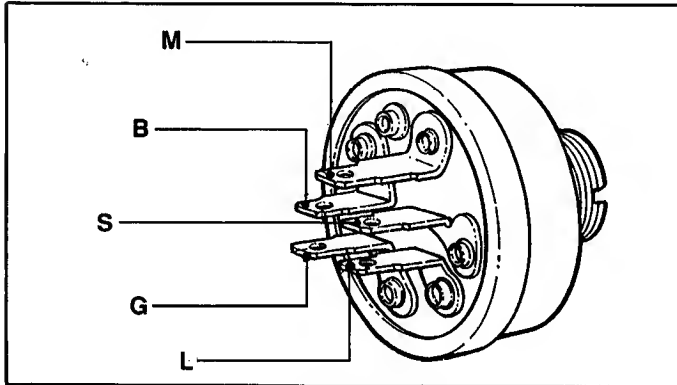

FIGURE 3.8
1. Disconnect wires from the switch terminals. See Figure 3.8.